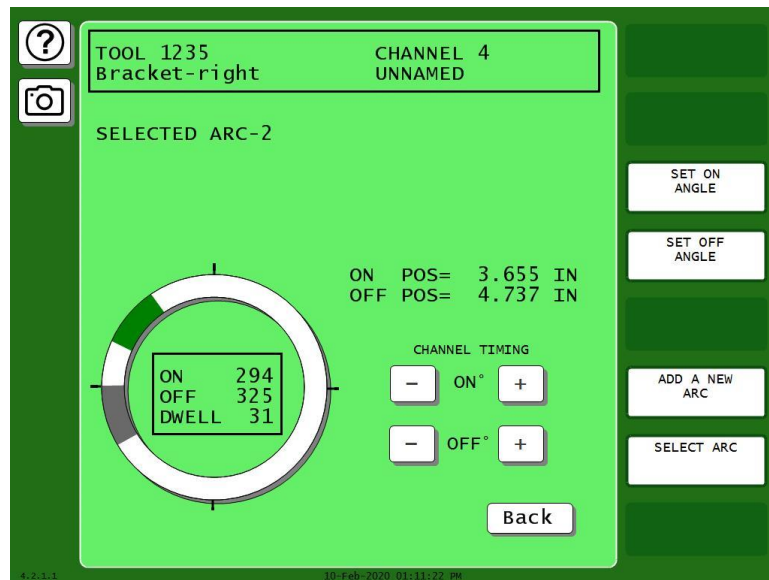

Figure 5-49. Cam Channel On/Off Program Screen: Two On/Off Arcs
- Program the second arc. Figure 5-49 shows the Cam Channel On/Off Program screen with Arc 2 programmed for an On Angle of 70° and an Off angle of 90°. The corresponding ram On and Off positions are 5.660 in. and 5.003 in.